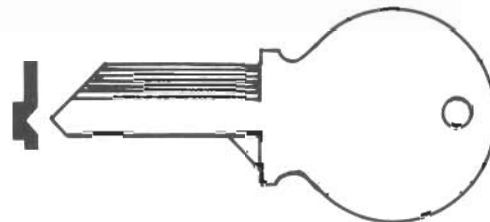
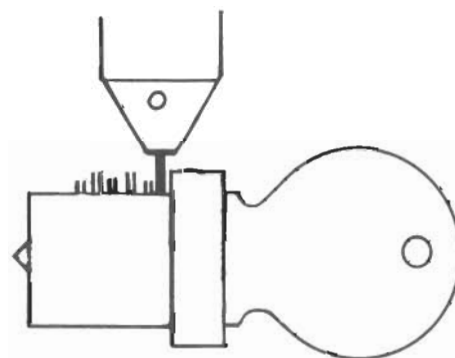
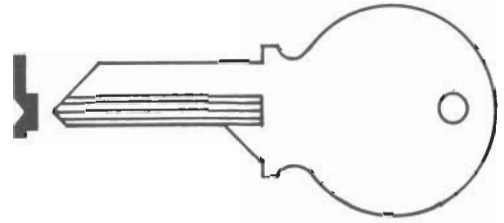

FIG. 8
FIG. 10
FIG. 9
Two keys of the same manufacture of key blanks must be used. One of these gate keys is cut down on one side only so that it may enter the lock cylinder snugly, not loosely; (Fig. 10) the other gate key must be cut on other side of keyway (see Fig. 8 and 9)
1. Remove the large indicator pin and replace with small one. Install Fig. 8 gate key into cylinder so that tumblers protrude out of cylinder (see Fig. 10).
4. Move spacing carriage with crank so that indicator pin is on barrel of cylinder to the right of tumblers protruding from cylinder (see Fig. 10).
8. Remove cylinder and gate key from lower vise and replace Fig. 8 gate key with Fig. 9 gate key (see Fig. 10). Place cylinder with Fig. 9 gate key in lower vise as before.